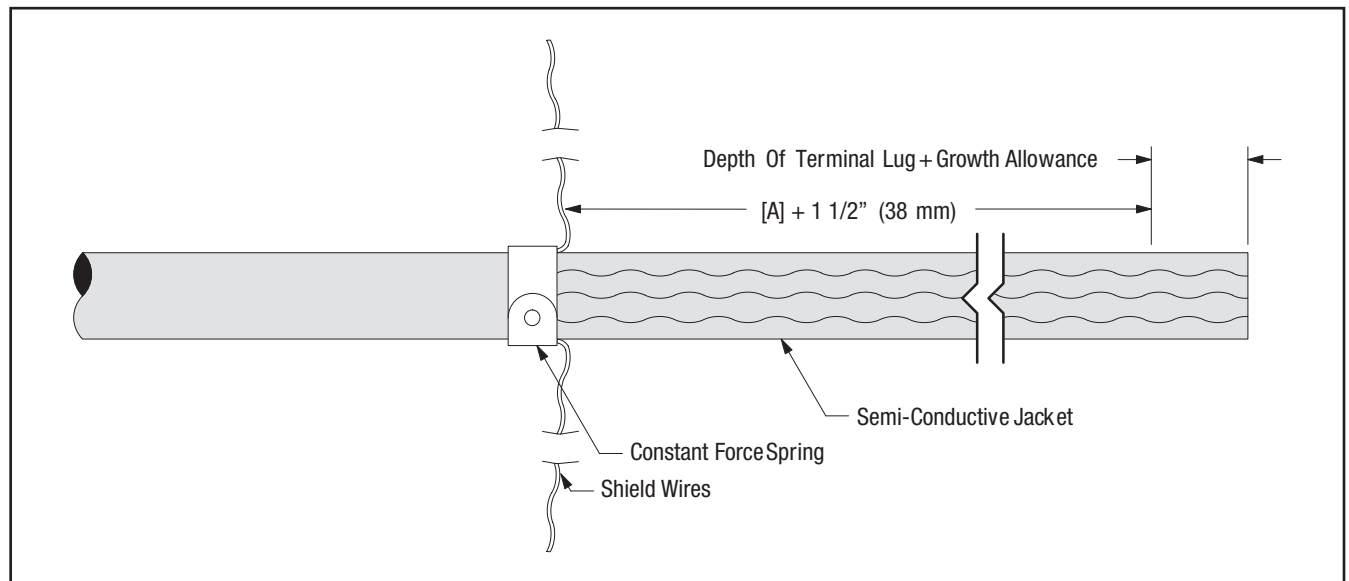

Figure 16
12.2 Prepare cable using dimensions shown in Figure 16, 17 and 18. Refer to Table 4 for dimension [A]. **Be sure to allow for depth of terminal lug.**
12.3 Install constant force spring as shown in Figure 16. Pull shield wires through semi-conductive jacket to leading edge of constant force spring (Figure 16).